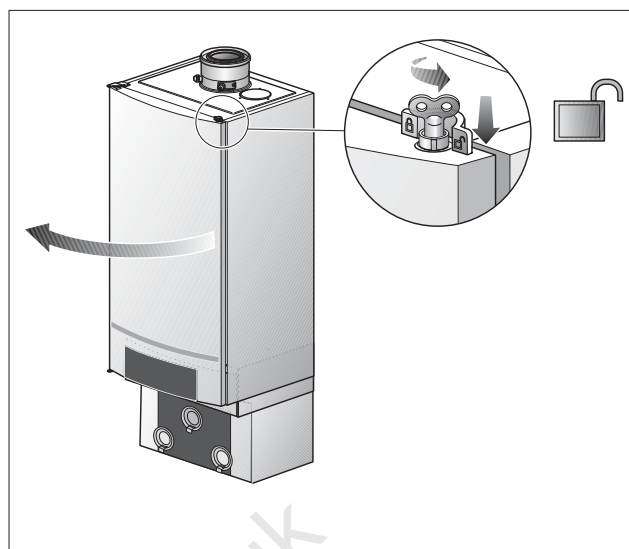

fig. 114 Opening the boiler door
- Turn the vent key through a quarter rotation to undo the boiler door lock (fig. 114, **see detailed picture**).
- Push the fastener down (fig. 114) and open the boiler door.